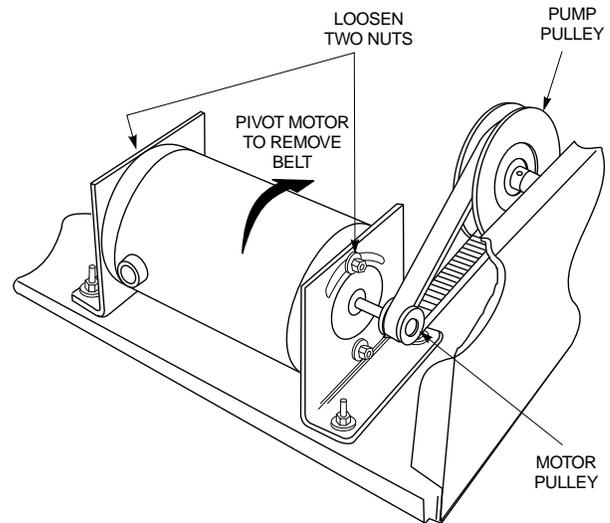

Figure 14. Replacing the Belt
3. Refer to Figure 14 and loosen, but do not remove, the two nuts that secure the motor to the top of the motor mounting brackets.